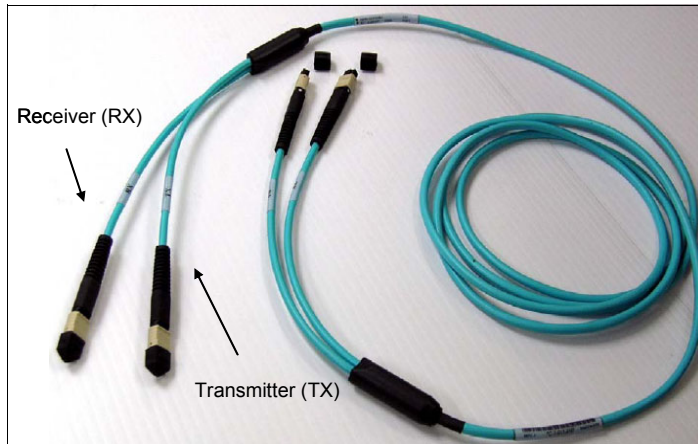

Figure 4-5 OM3 50/125  $\mu\text{m}$  multimode fiber cable with MPO connectors
**Important:** The HCA3-O fanout features two ports (1 and 2). Each port includes one connector for transmitting (TX) and one connector for receiving (RX). Ensure that you use the correct cables. An example is shown in Figure 4-5 on page 157.